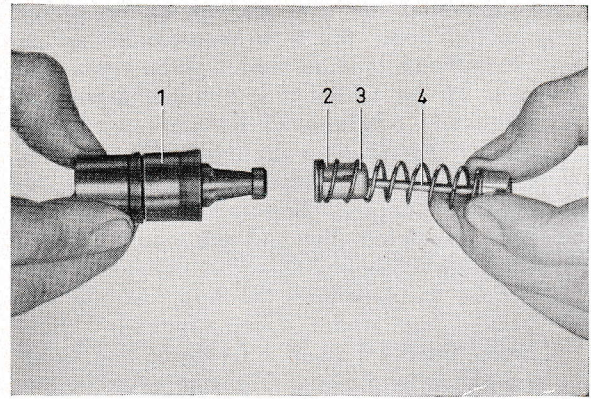

Fig. 49. Assembling the plunger.
3. Fit the spring and spring retainer (3, Fig. 49) onto the push rod (4) and assemble these parts to the plunger, see Fig. 49. Then press down the locking piece (2) on the spring retainer so that the parts are held in position.